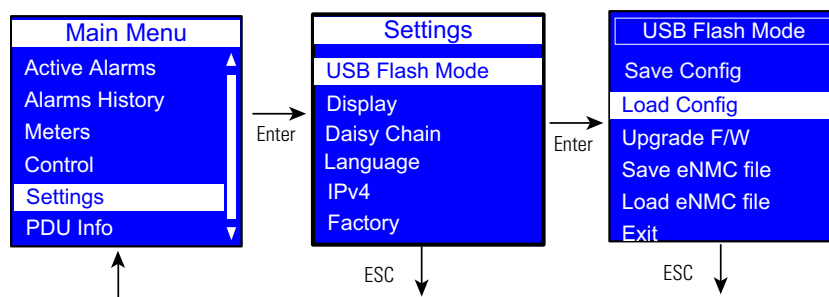

Figure 54. Example Load Config.
6. Select Load Config then click **OK** to start loading the ConfigurationData.xml file into the eNMC module (see Figure 54).